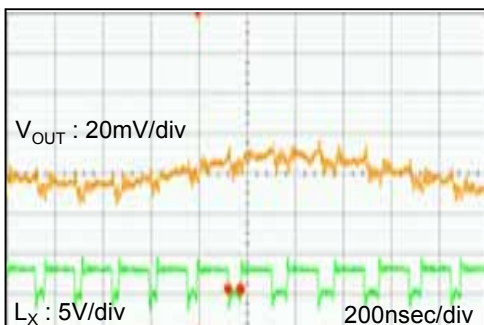
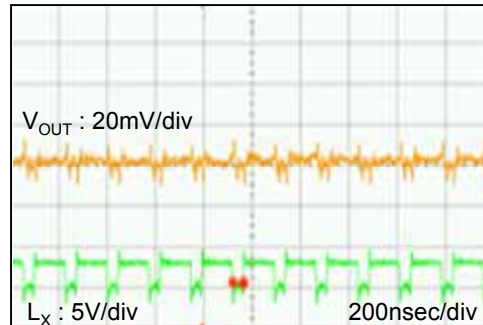

Fig.15-1 Insufficient C_L ($C_L = 10\ \mu\text{F}$)
Fig.15-2 Sufficient C_L ($C_L = 20\ \mu\text{F}$)
15. If the capacitance value is not sufficient by degrading C_L due to the low temp. condition and DC bias feature, the duty cycle might not be stable. Add capacitance value for C_L if necessary. (Refer to Fig.15-1, Fig.15-2)